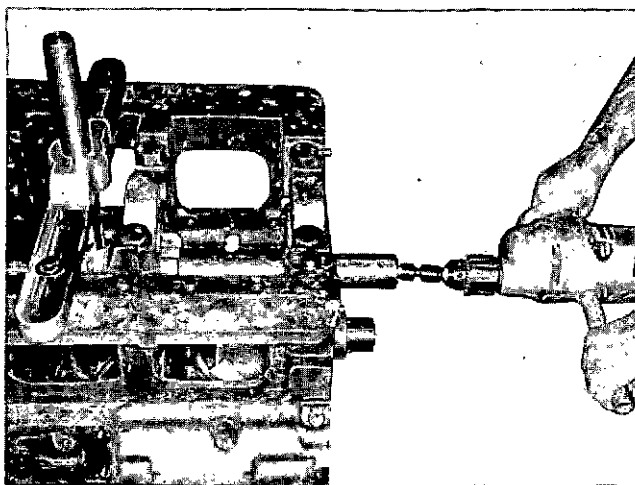

Fig. 1-1-20, V40190. Boring main bearing journal with ST-1177
12. With swivel joint on boring bar adapter, bore the journal. Fig. 1-1-20. Do not push on drill. **Allow feed assembly to regulate amount of cut.** Keep boring bar well lubricated during all boring operations.